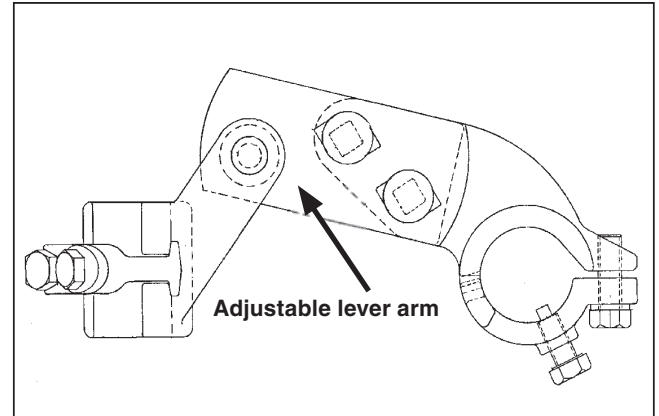

Figure 28. Torquing the nuts on the adjustable lever arm of the interphase drive lever.
STEP 23. When satisfactory travel adjustment of the operating handle and switch have been attained, torque the nuts on the adjustable lever arm of the interphase drive lever and the clamp bolt on the rod guide (or interphase drive lever) coupling to final tightness. Then, tighten the associated piercing set screws, piercing the pipe, and continue turning until a firm resistance is felt. See Figure 28.